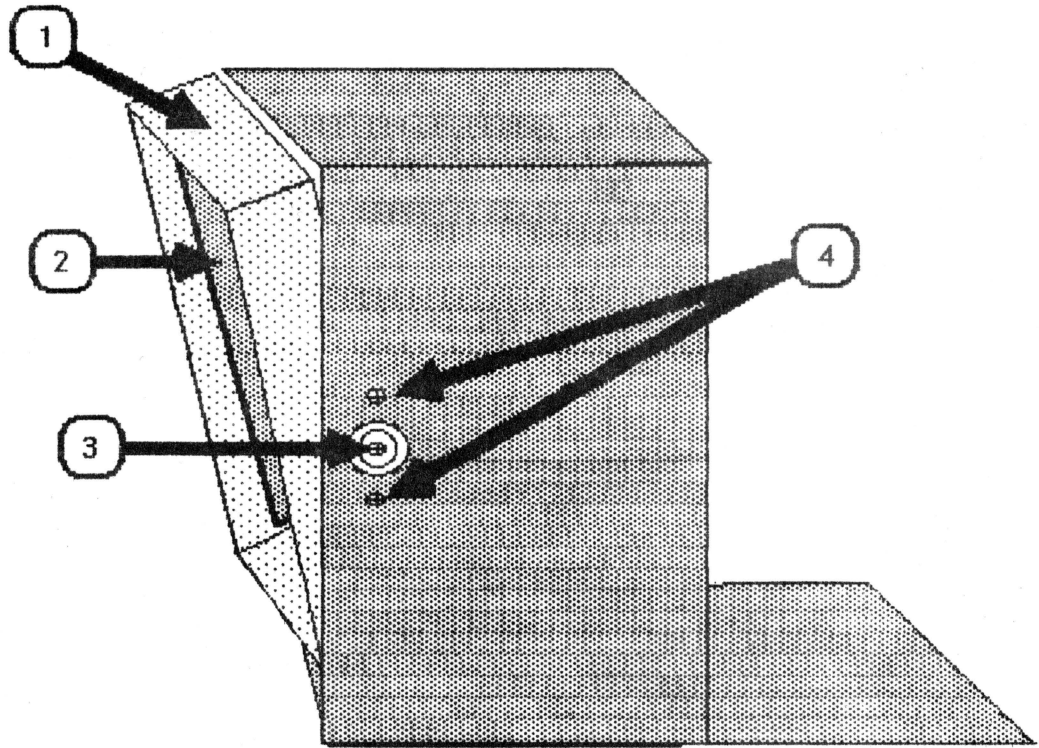

FIGURE 18
**NOTE:** The mask is shown in Figure 18, #1. The metal parts that come off when removing the mask are not considered part of the mask.
- a) Support the CRT bracket (Figure 18, #2) while you loosen the axle screw (Figure 18, #3) until it clears the bracket. Set the bracket aside.
- b) Completely remove the axle screw (Figure 18, #3).
- c) Remove the two screws shown in Figure 18, #4.
- a) Replace the two screws shown in Figure 18, #4.
- b) Place the CRT bracket (Figure 18, #2) inside the mask with the screw holes adjacent to the screw holes located at the upper and lower corners of the mask.
- c) Replace the axle screw (Figure 18, #3).